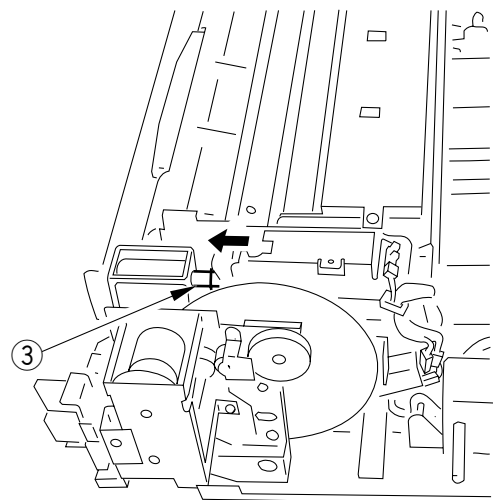

Figure 6-208
- 2) After installing the fixing cleaning belt, move the one-way lever ③ in the direction of the arrow (Figure 6-208); then, turn it until all the slack has been removed from the fixing cleaning belt.